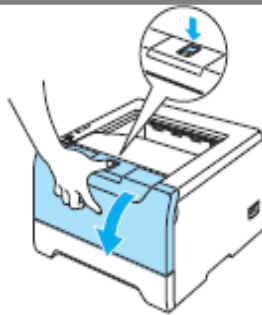

Fig 2a
- Open front cover of machine to access main body, remove drum & toner check for paper jams/obstructions here (Fig 2a & b)